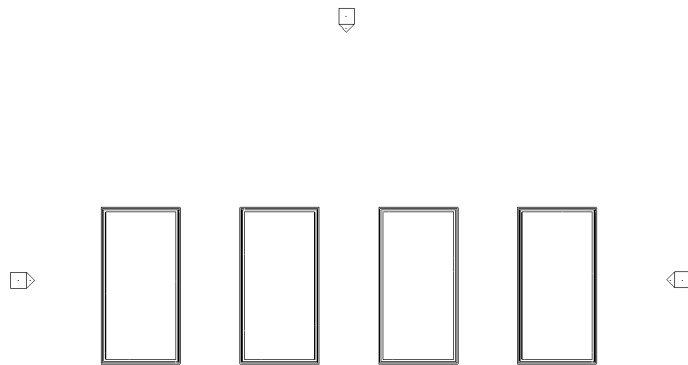

FIGURE 7-1.2
6. Drag a window around the walls to select them. Then use the **Array** command to setup four buildings **35'-0" O.C.** (Figure 7-1.2); see the *ARRAY TIP* below.